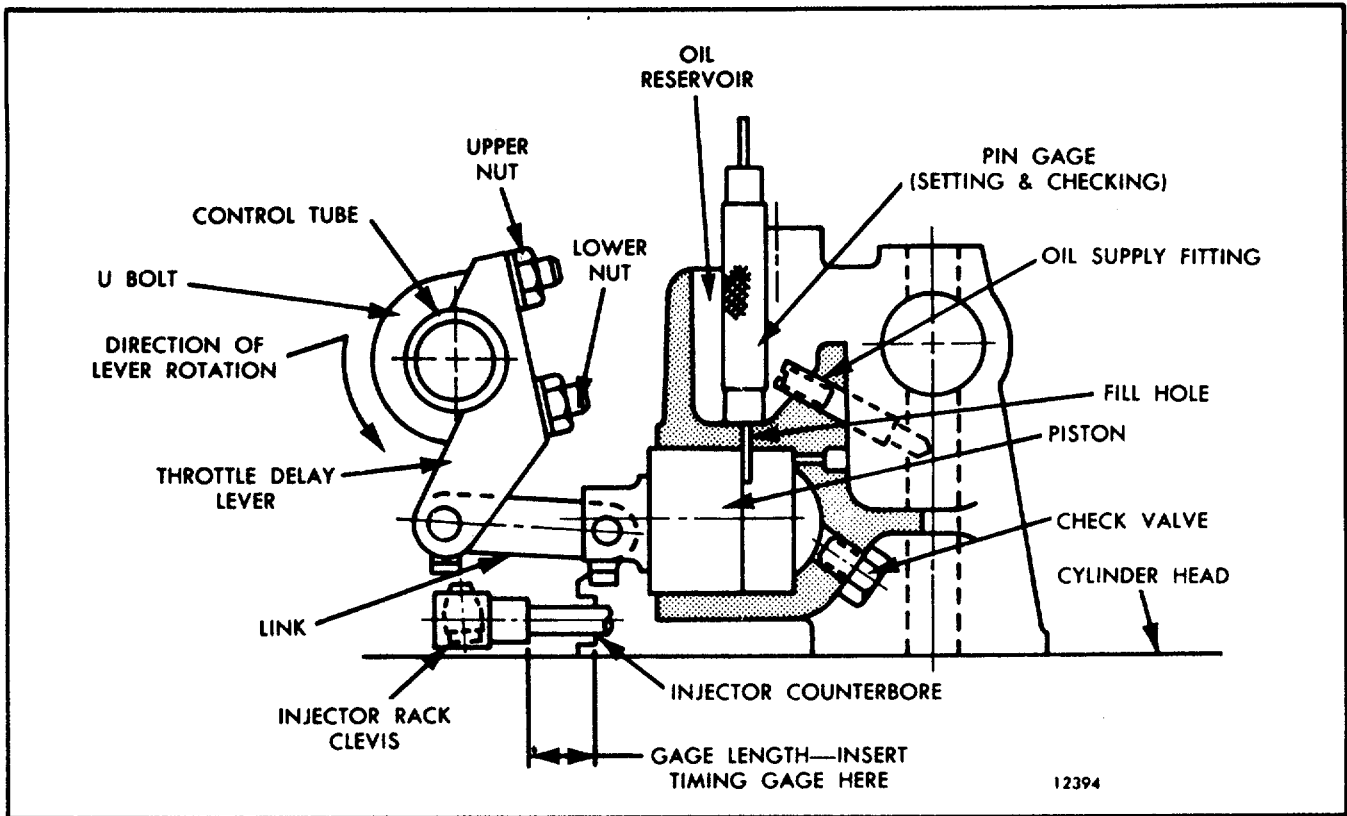

Fig. 3. - Adjusting Throttle Delay Cylinder
1. Refer to Fig. 3 and insert the timing gage between the injector body and the shoulder on the injector rack clevis of the injector nearest the throttle delay cylinder. (570" setting J 25559 with the .069" and .072" pin gage-J 25558).
4. Rotate the throttle delay lever in the direction shown in Fig. 3 until further movement is limited by the piston contacting the pin gage.